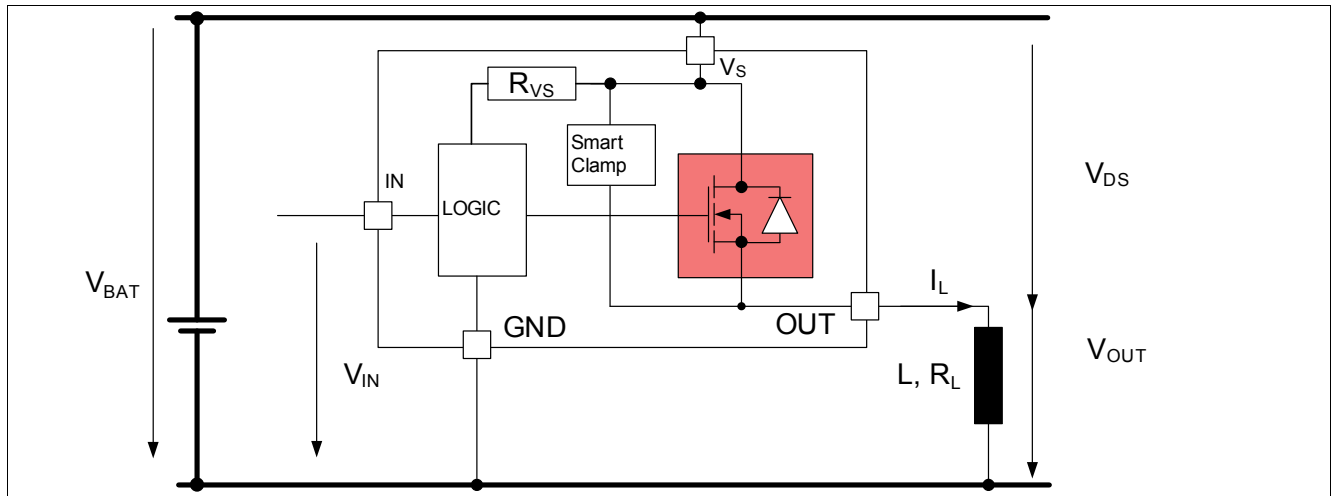

**Figure 8** Switching a Resistive Load Timing
**Figure 8** shows the typical timing when switching a resistive load. The power stage has a defined switching behavior. Defined slew rates results in lowest EMC emission at minimum switching losses.